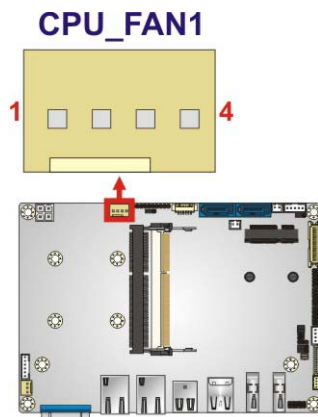

Figure 4-6: CPU Fan Connector Location
- CN Location: See **Figure 4-6**